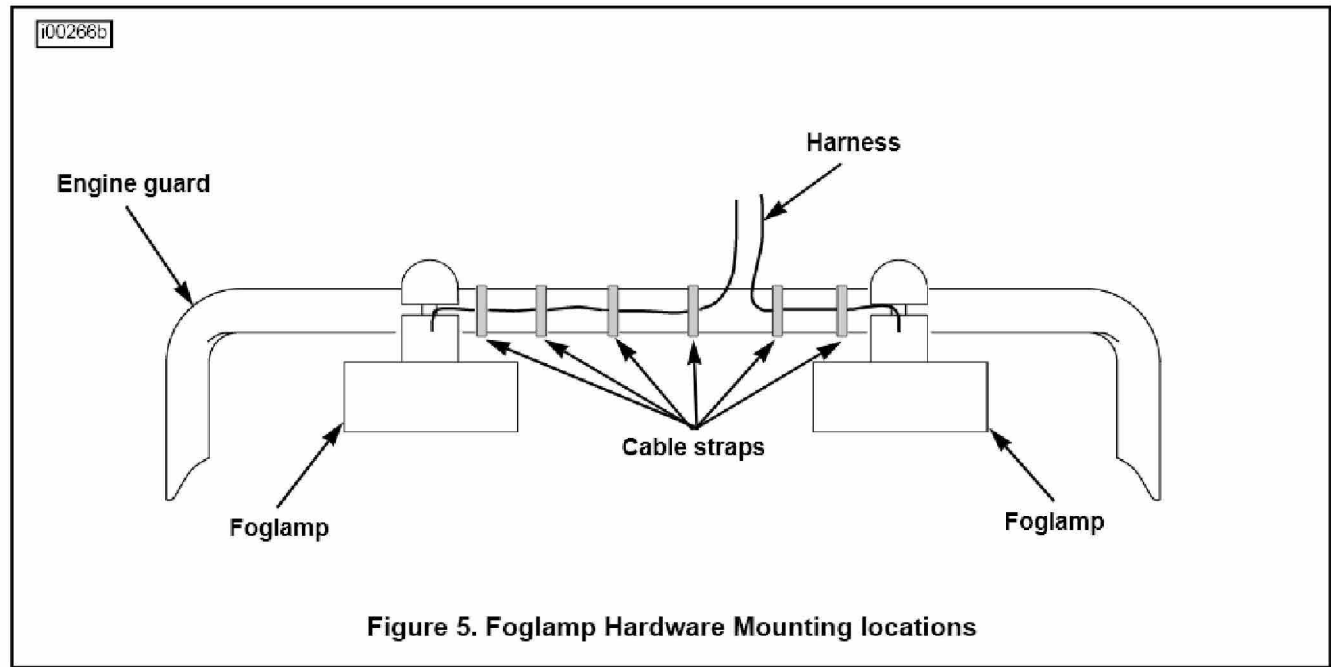

Figure 5. Foglamp Hardware Mounting locations
1. See Figure 5. Install fog lamps on engine guard as shown. Do not tighten.